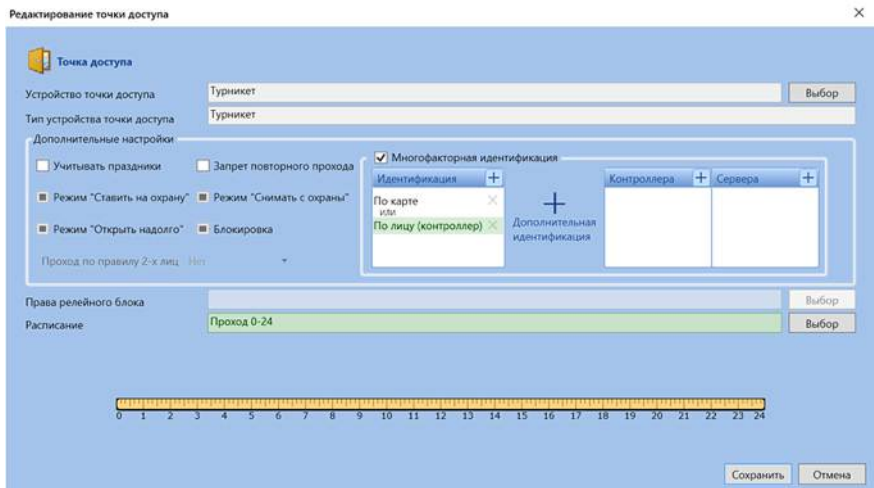
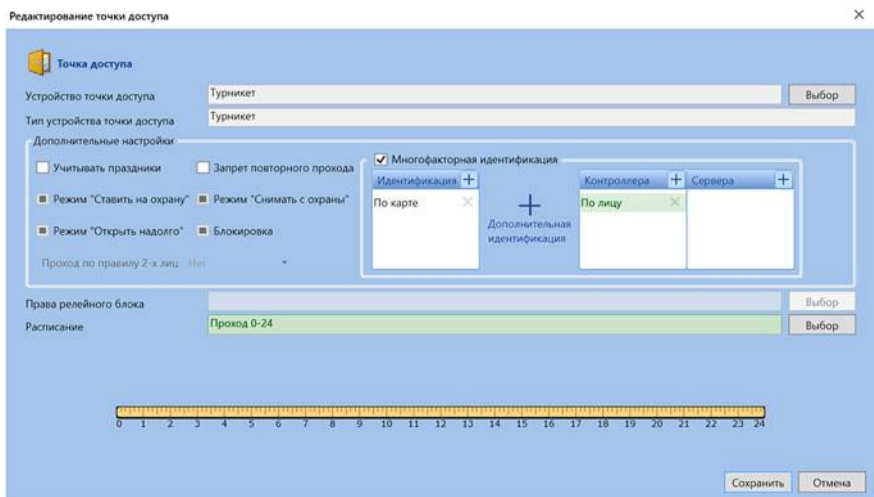

Fig. 10. Access level settings for **Card and Face** mode
Fig. 11. Access level settings for **Card and Face** mode
3. For the **Card or Face** mode, add **By face (controller)** to the **Identification** section (Fig. 10). For the **Card and Face** mode, add **By face** to the **Controller** section (Fig. 11).